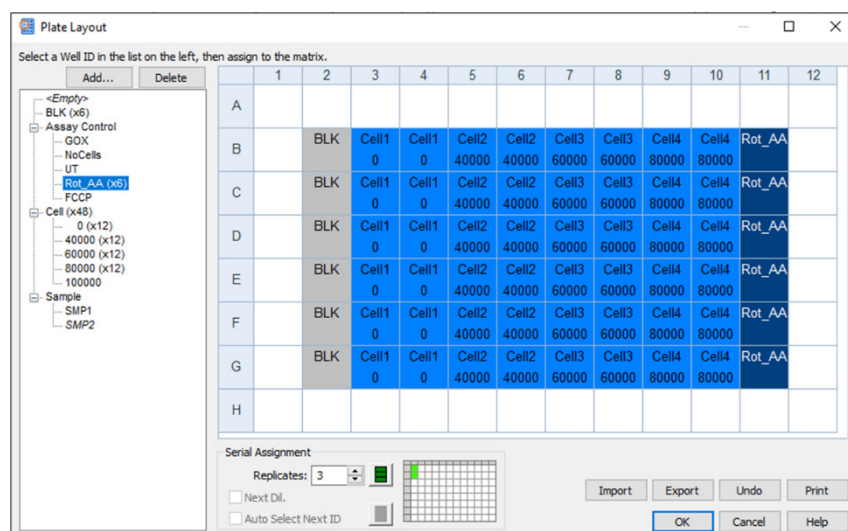

Figure 7. Example of a plate map used for typical longer-term assay; outer wells were filled with water to maintain humidity.
3. Enter a plate map, click **Plate Layout**, then add a standard curve by clicking **Add > Standard Curve**, then enter the values for the cell numbers (Figure 7).